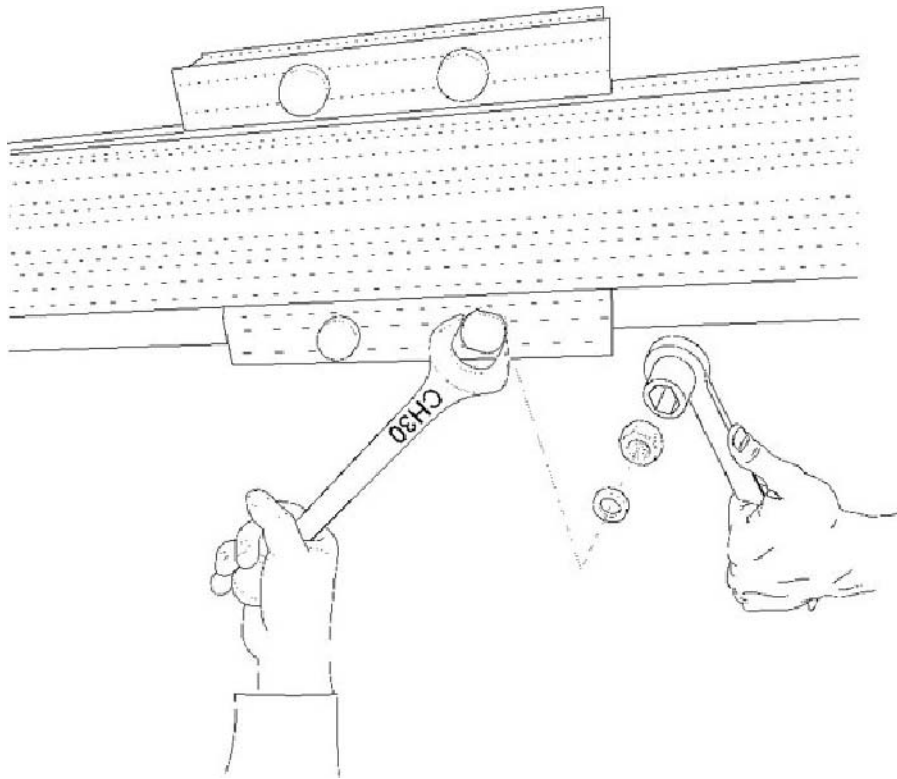

Fig. 5-21 Adjustment of sliding blocks
10. See Figure 5-21. Adjust the eccentric pivot located in the cylindrical hole until the block and the bar are in contact. Also adjust the pivot in the slotted hole.